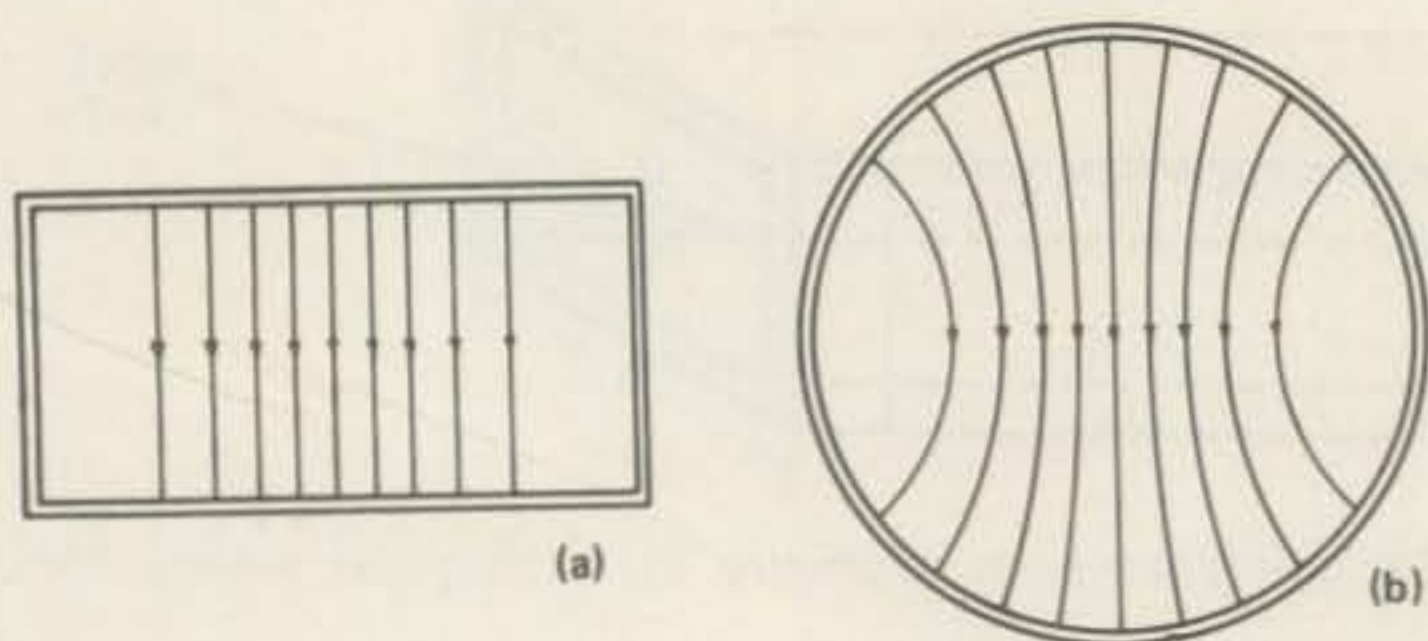

Fig. 5—Electric fields of lowest-order mode in rectangular and cylindrical waveguides.
A second common waveguide is that having a circular cross-section. A detailed discussion of the modes in the circular guide would involve somewhat less familiar mathematics than that appropriate to the rectangular guide, but otherwise proceeds in much the same manner. As for the latter, the possible modes in the circular guide can be enumerated in terms of their polarization, TE or TM, and two indices that denote the half-cycle patterns of the fields across the guide. For the circular guide, one of these indices describes the field variation from the guide center, or axis, to the wall; the other index describes the field variation around a loop encircling this axis. The lowest-order mode (i.e., that which is cutoff at the lowest frequency) is the $TE_{1,1}$ mode. This mode has a field pattern somewhat similar to the lowest-order mode in the rectangular guide, the $TE_{0,1}$ mode, as can be seen from fig. 5.
In order to illustrate placement of such coupling devices more concretely, consider the $TE_{0,1}$ mode in a rectangular guide. The electric- and magnetic-field components of this mode are constant across the guide between the closely-spaced, broad walls and have a single half-cycle variation across the guide between the widely-spaced, narrow walls. This behavior is illustrated in fig. 5(A) for the single electric-field component, which runs across the narrow width of the guide, between its broad walls. In addition to this field component, the magnetic field has two components. One of these is parallel to the guide axis (longitudinal) and is maximum and of opposite sign at the two narrow walls of the guide, diminishing to become zero and change sign midway between them. The other magnetic-field component runs across the broad width of the guide between its narrow walls, at which it is zero; it is maximum midway between them.